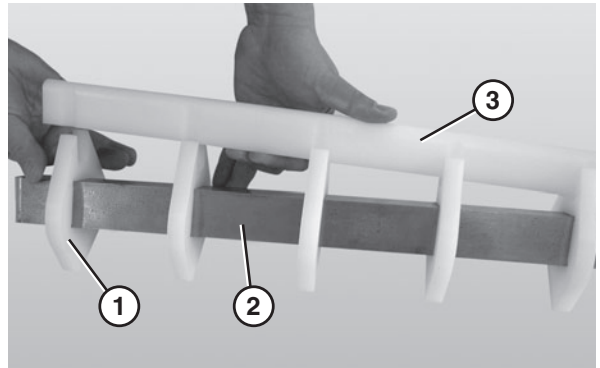

Figure 63
3. Remove the nose bar wear strip (**Figure 63, item 3**).
4. Slide the nose bar pucks (**Figure 63, item 1**) off the nose bar shaft (**Figure 63, item 2**).